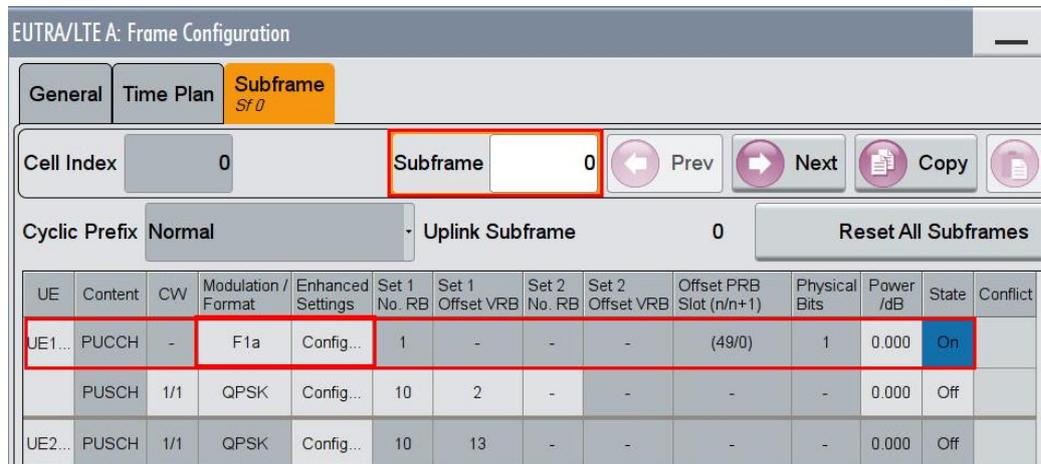

Fig. 3-147: PUCCH with format F1a in subframe 0
9. Set for the PUCCH the **Format** to **F1a** and the state **On** (Fig. 3-147)